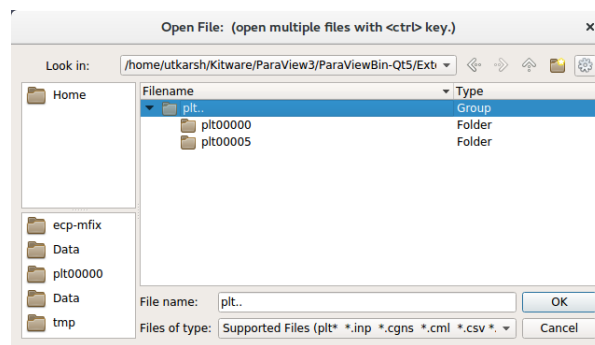

Fig. 18.3: : File dialog in ParaView showing a group of plotfile directories selected
2. Navigate to your run directory, and select the fluid or particle plotfile. Note that you can either open single or multiple plotfiles at once by selecting them one by one or select a file ensemble, labeled as `plt..` and indicated as a Group in the “Type” column of the file explorer (see Fig. 18.3). In the latter case, ParaView will load the plotfiles as a time series. ParaView will ask you about the file type – choose “AMReX/BoxLib Grid Reader” or “AMReX/BoxLib Particles Reader”. Note that if your plotfile prefix is not `plt` or any other type supported by default, then in `Files of type` you need to first select `All files (*)`.
Open ParaView, and then select “File” → “Open”. In the “Files of Type” dropdown menu (see Fig. 18.3) choose the option All Files (*). Then choose `plot_files.series` and click “OK”. Now the plotfiles have been loaded as a Group as in Step 2 of section ParaView. Now, you can follow the steps 2 to 7 in the section ParaView to plot.
1. Run ParaView v5.7, and select “File” → “Open”. You will see a combined “plt.” group. Click on “+” to expand the group, if you want to inspect the files in the group. You can select an individual plotfile directory or select a group of directories to read them as a time series, as shown in Fig. 18.3, and click “OK”. ParaView will ask you about the file type – choose “AMReX/BoxLib Particles Reader”.